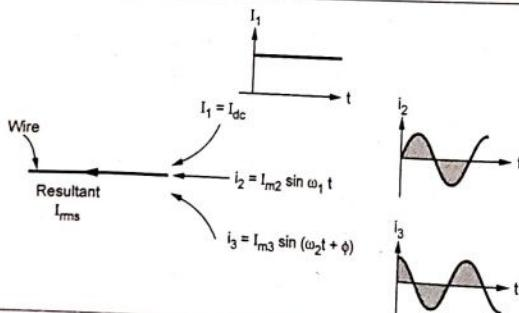

Fig. 2.9.1 Wire carrying 3 different currents simultaneously
- Let the wire carries three different currents as shown in the Fig. 2.9.1.